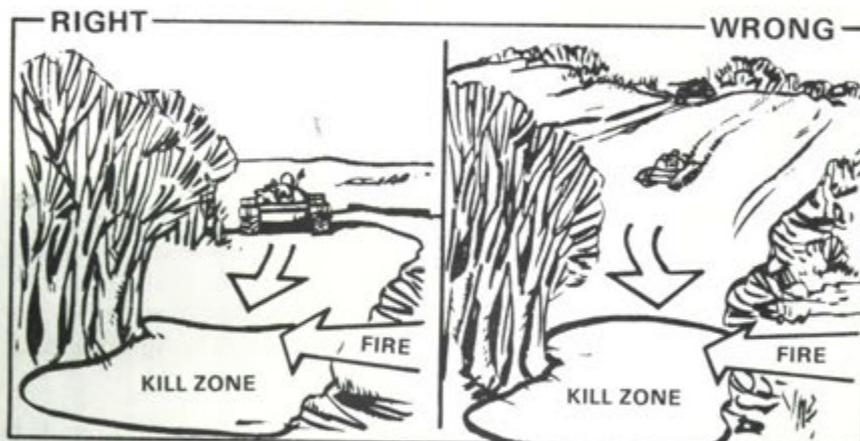

Figure 5.
f. Keep the target vehicles out of sight of any overwatching vehicles (figure 5).